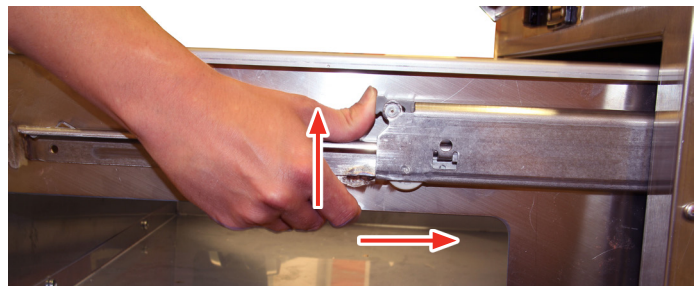

Fig. 21
3. Reopen the drawer and pull outward until it stops. Push the drawer lock upward while simultaneously towards the back of drawer to lock the drawer in place (Fig. 21).